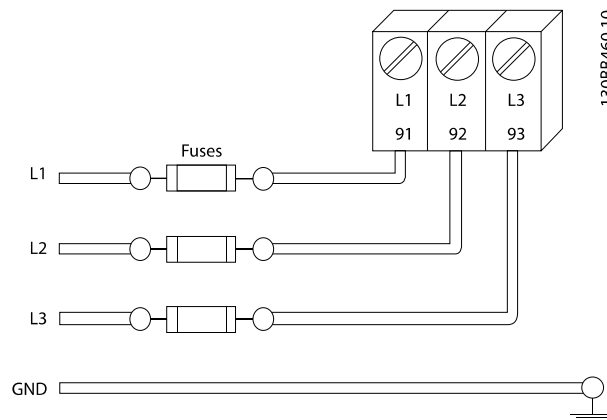

Figure 2.6 Drive Fuses
- All adjustable frequency drives must be provided with short-circuit and overcurrent protection. Input fusing is required to provide this protection, see *Figure 2.6*. See maximum fuse ratings in *10.3 Fuse Tables*.